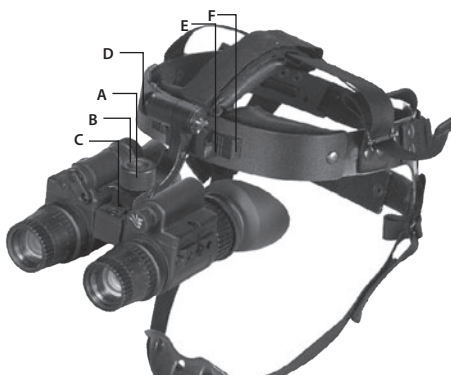

FIGURE 3-2. MOUNTING N-15 TO A GOGGLE KIT
2. Loosen the screw (A). While pushing down on the button (B), insert the N-15 rail into the guide (C) of the goggle kit bracket. Tighten the screw (A). See Figure 3-2; the unit is shown in the correct positioning for the right eye.
4. To adjust the equipment for greater comfort, loosen the screw (A) and move the unit along the guide (C).
5. The goggle kit has a flip-up mechanism. Push the button (D) of the goggle kit bracket and lift the unit up until it reaches its top position. The unit will automatically turn off when it reaches this position.
6. Push the same button (D) to lower the unit into the correct viewing position. Turn the unit back on to continue your session.
Figure 3-2 shows the N-15 in the correct position for the right eye. To readjust the unit for the other eye, remove the unit from the goggle kit bracket. Turn the unit around (180°) and mount it on the bracket through the rail on the second side. With the button (E) pushed, move the unit along the slide-rail (F) until the desired, most comfortable position is reached.